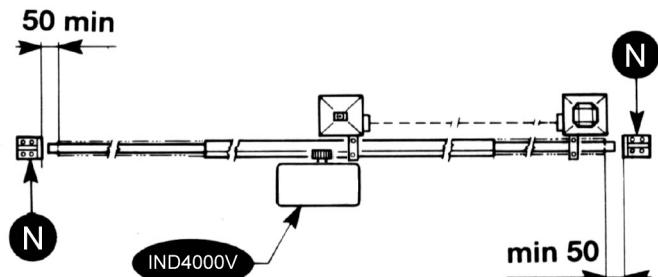
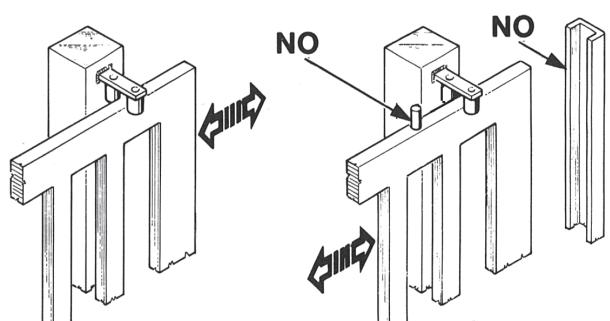

FIG. 2
FIG. 3
- Besides the electrical or mechanical limit switches available on the operators, there must be, on both ends of the installation, a fixed mechanical stopper which stop the gate in the unlikely event of ill functioning of limit switches on the operators. For this reason the fixed mechanical stopper must be of an adequate size to withstand the static and kinetic forces generated by the gate (N) (Fig.2).
The guide must be provided with two mechanical stops at its ends (N) (Fig. 2). Gate columns shall have anti-derailment guides on their top (Fig. 3), to avoid the unintentional gate release.
**Note:** Eliminate those mechanical stops of the kind described by figure 3.